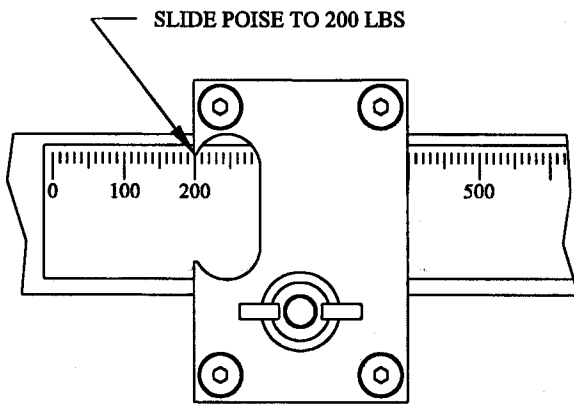
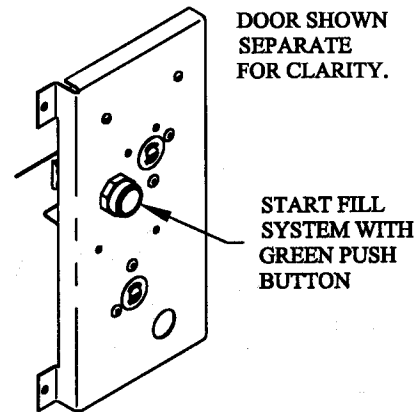

FIG. 5A
FIG. 5B
STEP 5. Slide the poise weight to 200 pounds on the beam. See Fig. 5A. Beam will drop down. Start the fill system with the green push button on the side door. See Fig. 5B. The fill system should shut off automatically when the bin has 200 pounds in it.